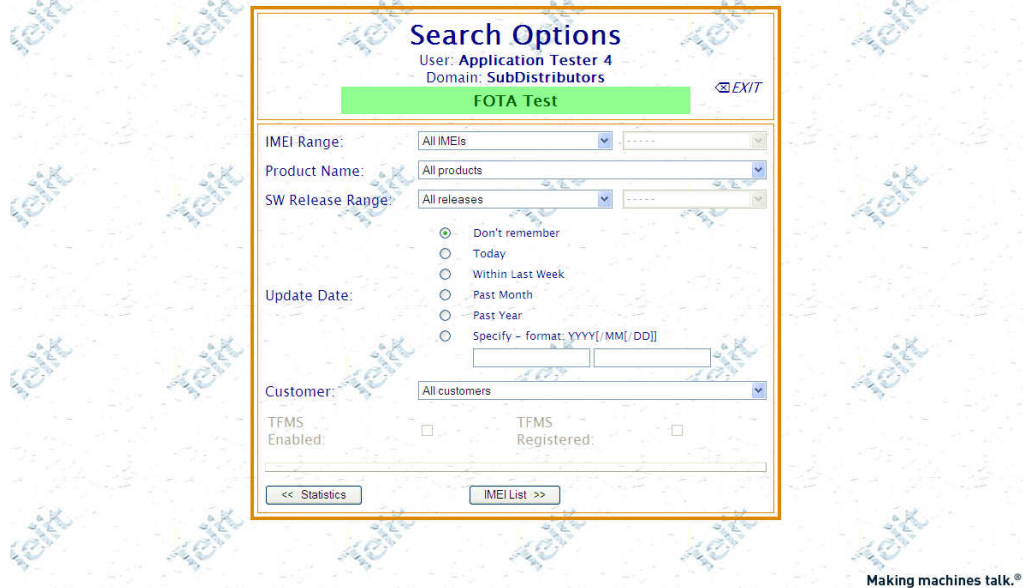

Fig.10 Search dialog box in case of certified customers performing a FOTA Test
- b) “FOTA Test”: special FOTA Updating session (see fig. 10)